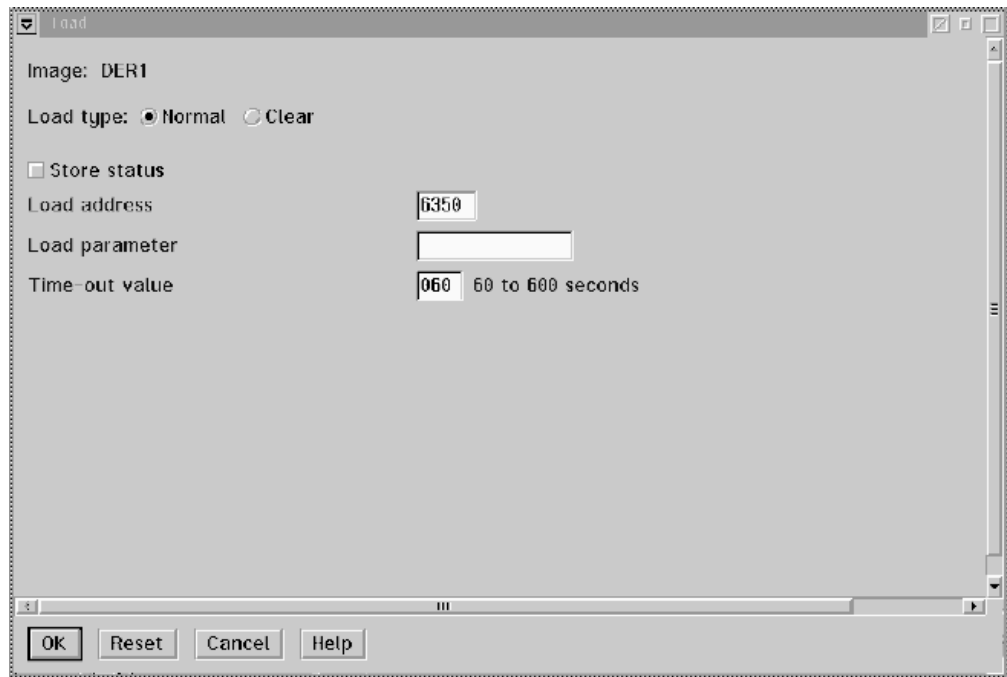

Figure 63. Load panel for booting from DASD or tape
- a. Select **Load type** “Normal” (see Figure 63).